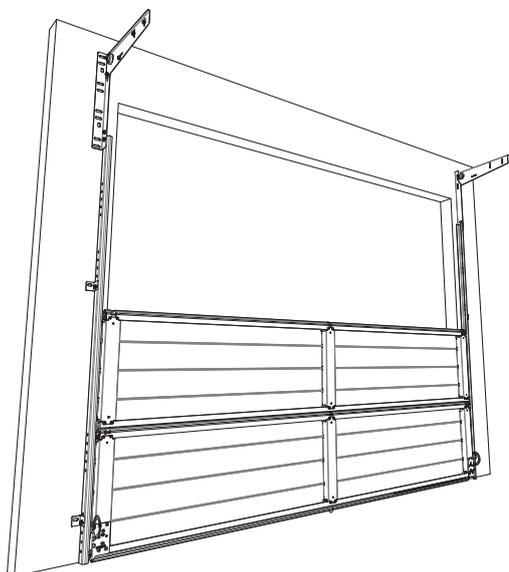

Fig: 3.2.2
- Insert the next panel into the tracks and rest on top of the bottom panel. Fig 3.2.2.
- c) Fit 1 x reinforcing end cap © to each exposed end of the reinforcement bars (2 end caps per reinforcement bar). Fig. 3.2.2